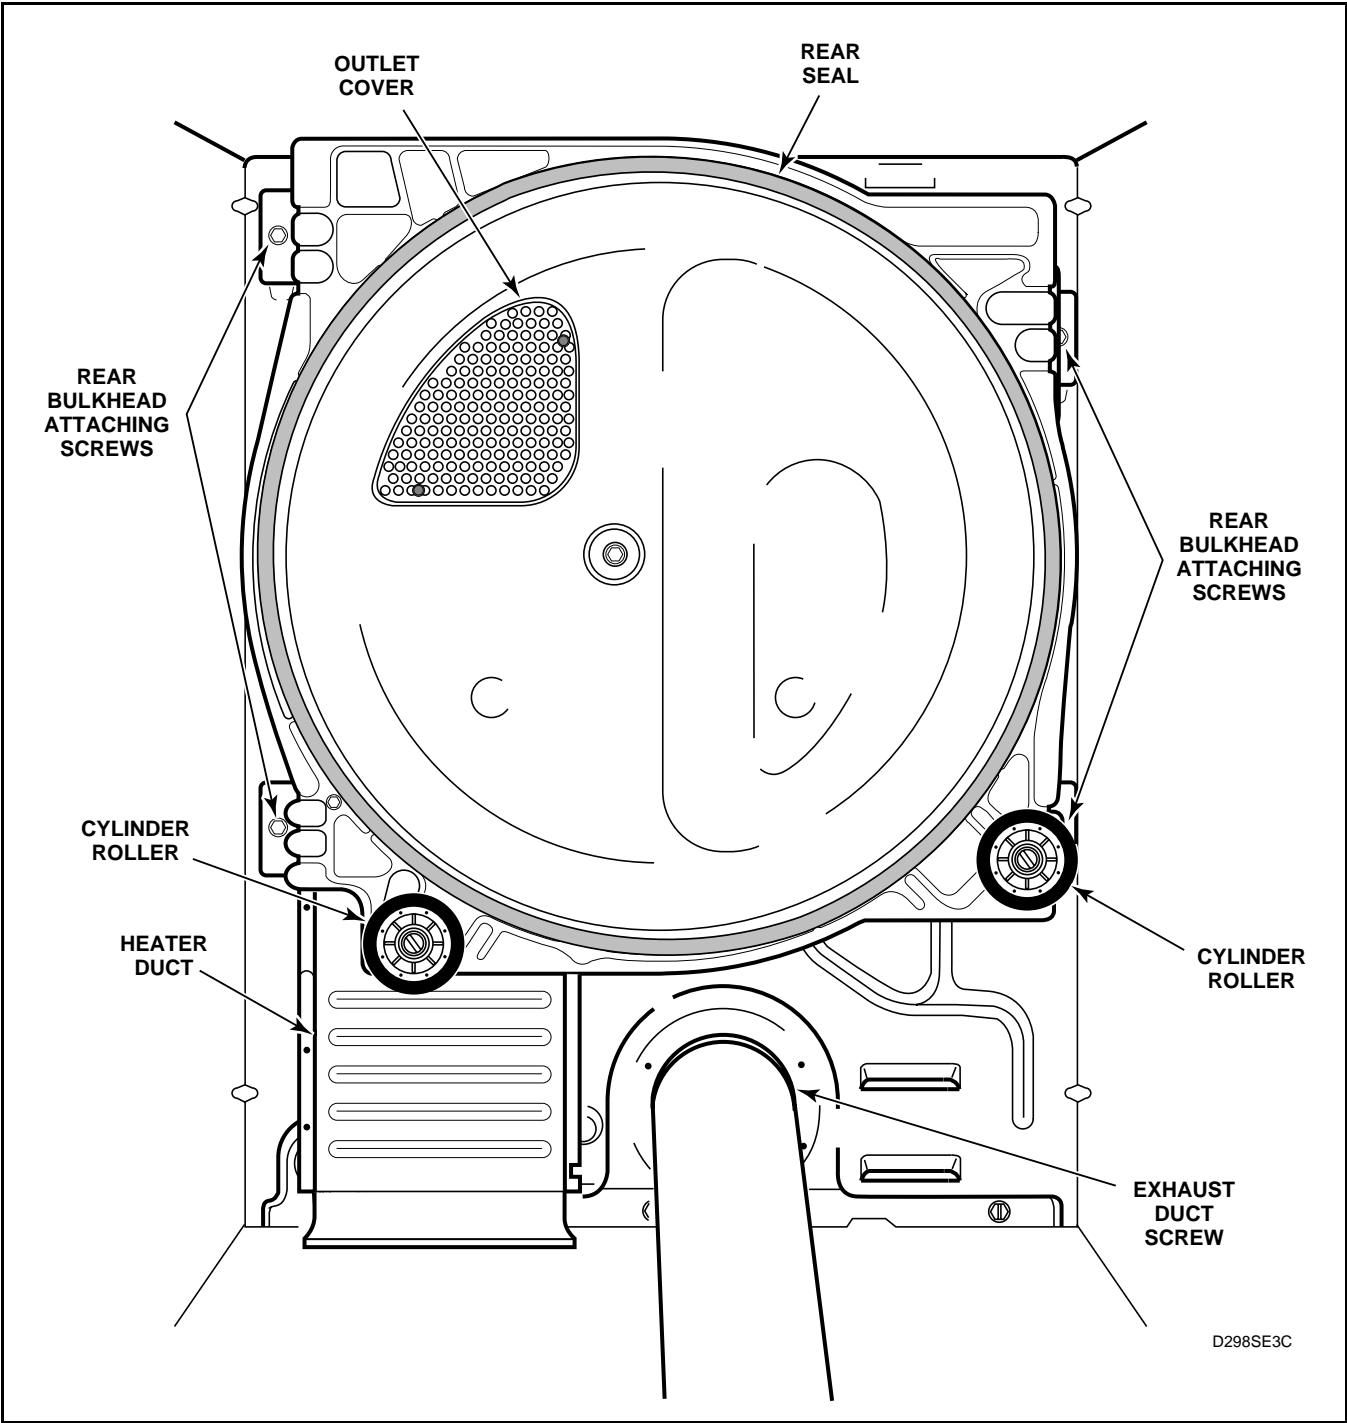

Figure 32
- Open door and remove two screws (if present) holding outlet cover to rear bulkhead. See *Figure 32*.
- (4.) While supporting bulkhead, remove the four screws holding rear bulkhead to dryer cabinet, then lift complete assembly out of dryer. See *Figure 32*.